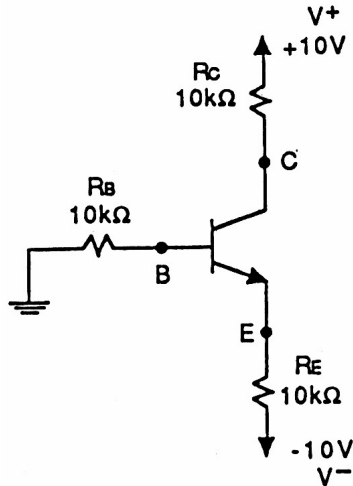

Figure 2: A Flexible Biasing Circuit.
In the circuit of Fig. 2, using  $\pm 10\text{ V}$  supplies,  $V_B$ ,  $V_E$  and  $V_C$  are found to be  $-0.042\text{ V}$ ,  $-0.693\text{ V}$  and  $+0.697\text{ V}$  respectively. Calculate  $I_E$  and the corresponding  $V_{BE}$ . Find two estimates each of  $\alpha$  and  $\beta$ . In which do you have most faith?
In the circuit of Fig. 2, in which the transistor measured above is used, the negative supply is raised to  $-5\text{ V}$ . Estimate the new values of the 3 electrode voltages under the assumption that  $n = 1$ .
- Connect the circuit as shown in Fig. 2, with the supplies carefully adjusted to  $\pm 10.00$  V.
- **Setup:** Same as in Fig. 2, with  $V^+ = 10$  V and  $V^- = -10$  V.